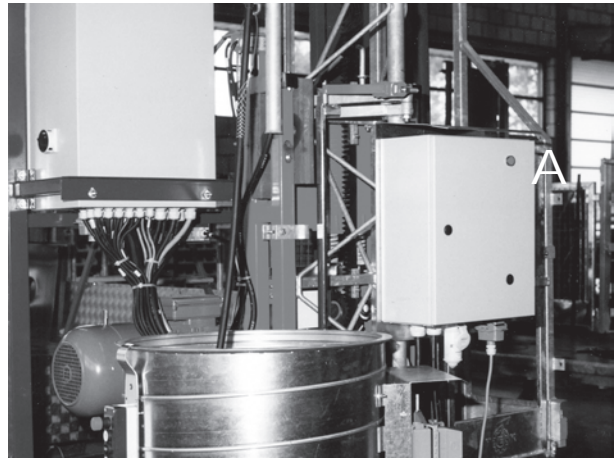

Fig.7-01 Control box
2. Check the security circuit of the ground station. The green indicator lamp 'operative' (fig.7-01, A) on the control box should be illuminated.